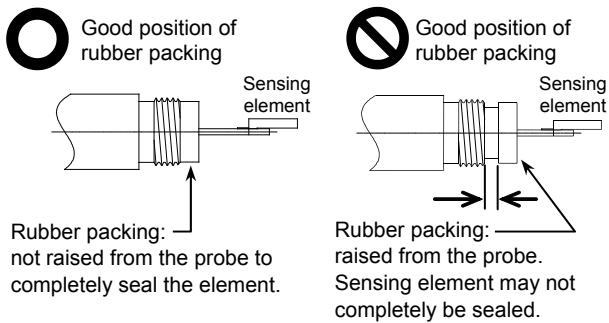

Figure 28. Rubber packing position
- 2) Before attaching the new filter, check that the rubber packing sealing the sensing element is not raised from the probe, as shown in Fig. 28.